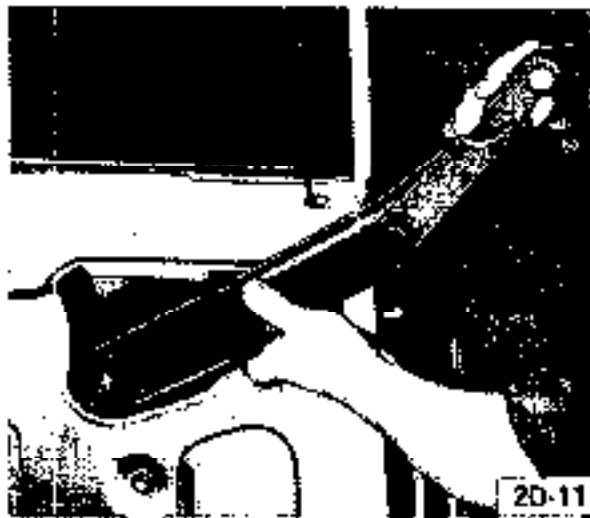

Figure 2D-11 Removing Window Lifter
1. Install window lifter through opening in inner door panel tipper part. See Figure 2D-11.